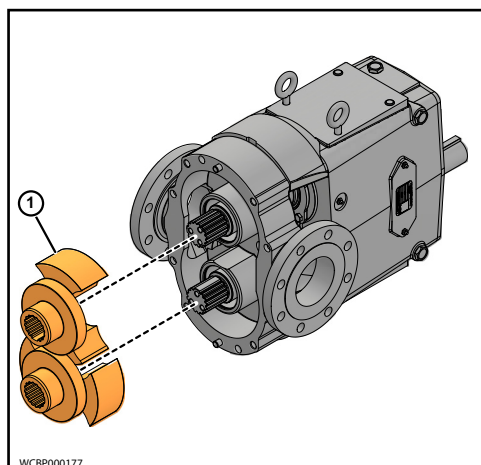

Figure 35 - Remove rotors
6. Remove the rotor (1) exposed first, as shown in Figure 35.